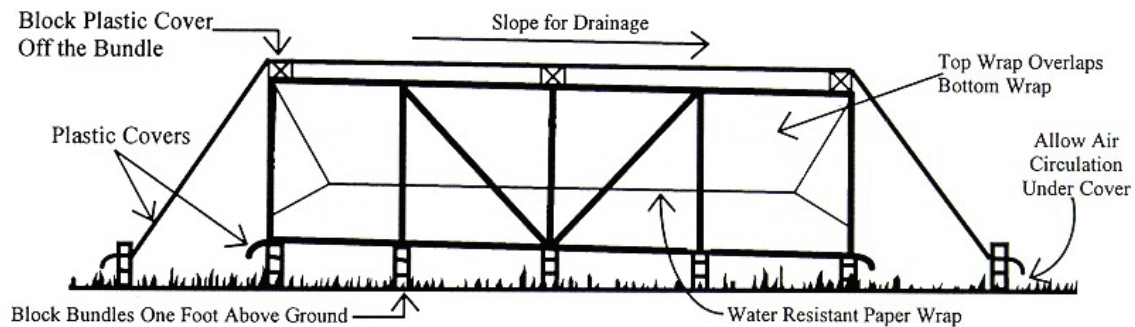

Figure 4. Proper Storage of Building Panel Bundles at Job Site
Paper wrapping should be used to protect the bundles of material from dirt and moisture. Plastic or other non-breathing material should not be used for wrapping bundles because these materials prevent air passage and tend to trap moisture in the bundle. The top wrapping sheet of each bundle should lap **over** the bottom paper, to prevent rainwater from entering the bundle (see Figure 4). All panel bundles should be accompanied by a tag or other listing that clearly describes each bundle’s contents.
4. Elevate one end of the bundle slightly to permit runoff of moisture from the top of the bundle or from between nested panels. Water-resistant paper will not provide long-term resistance to moisture penetration from puddled water on top of the bundle. A waterproof cover should be placed over the bundles, with allowance for air circulation under the cover (see Figure 4).